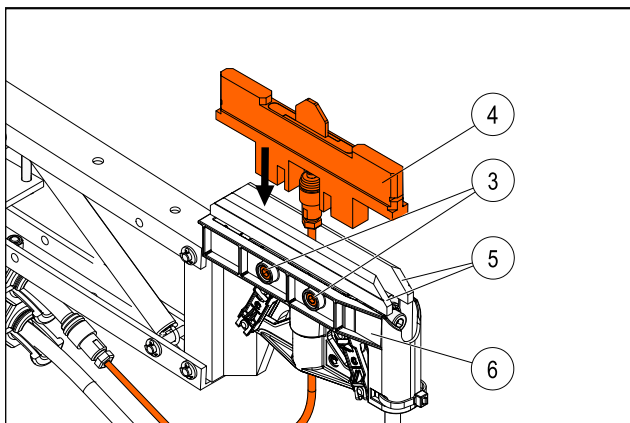

Fig. 84: Insert antenna between sliding contacts
- Tighten both cylinder head screws (3) (see Fig. 84).